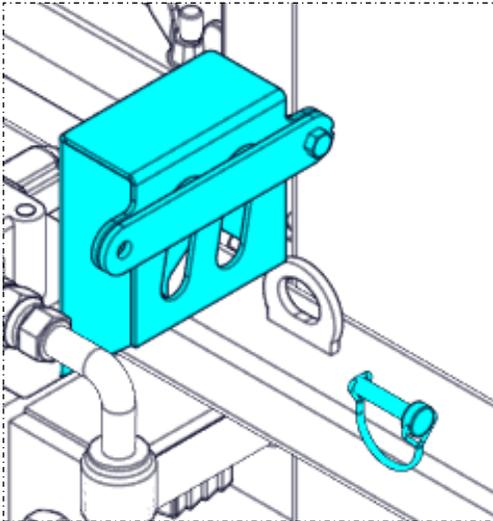

Figure 6.1
- A) Open the quick pin that is holding the lock plate and the front panel of the hose hanger (Figure 6.1).